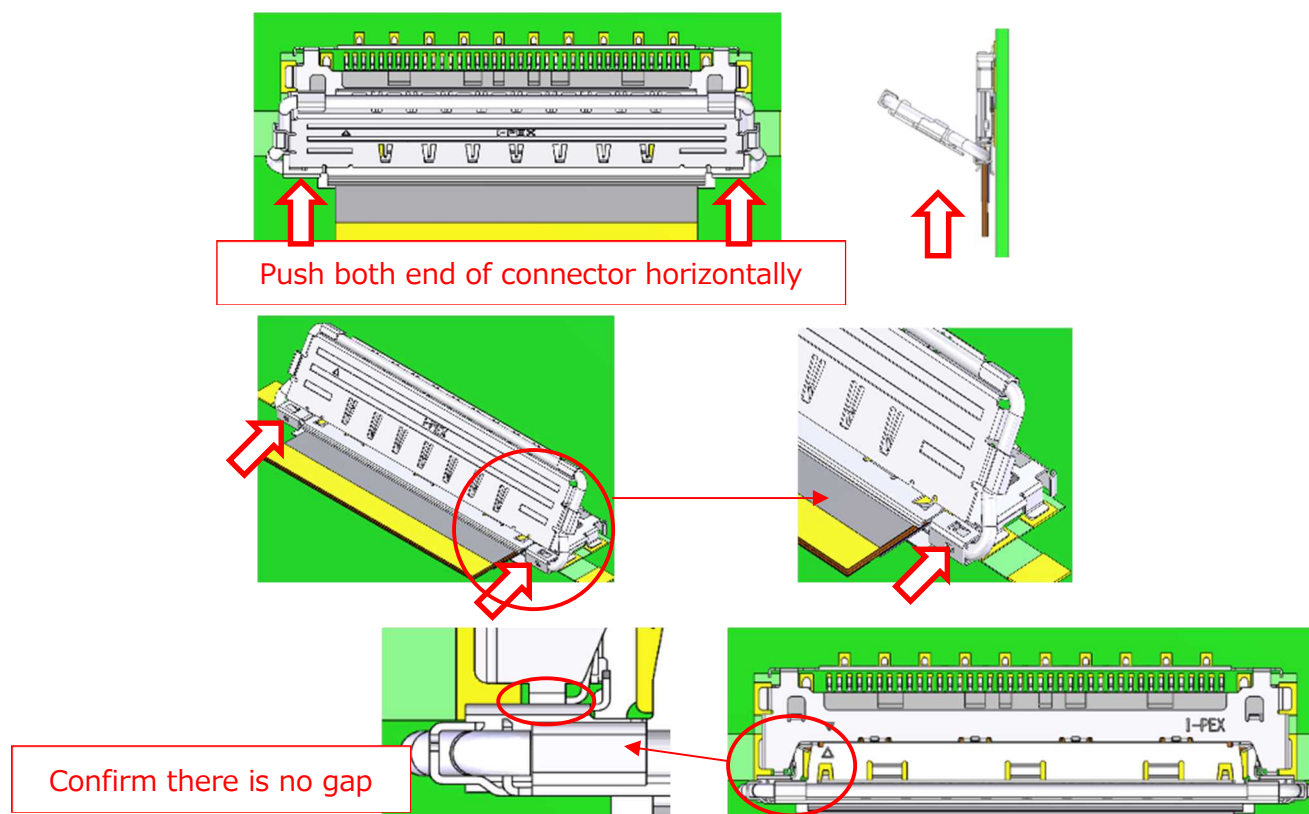

Fig. 6
③As shown in Fig.6, push both ends of Plug connector horizontally and confirm there is no gap.